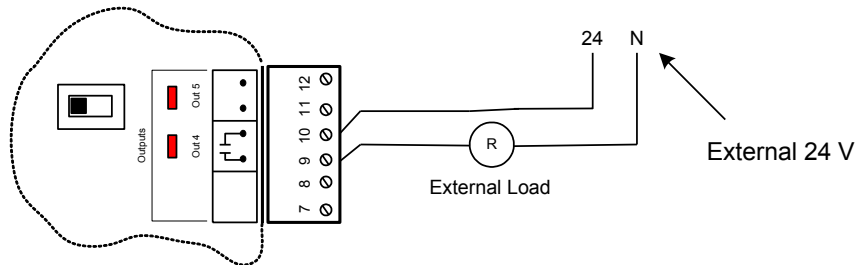

Figure 7: Connection of passive outputs 3 and 4
- 2) Passive output (SINK). The C1000 opens and closes a contact to allow an external source to power the load (see Figure 7).